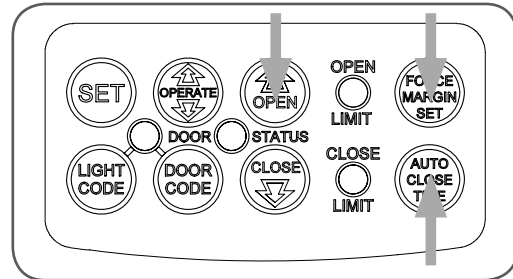

fig 31
- Press and hold both the AUTO CLOSE TIME and FORCE MARGIN SET buttons (**Fig. 31**).